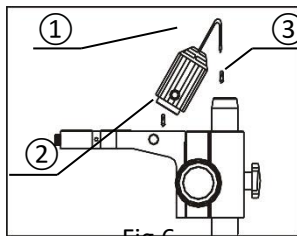

Fig. 6
- 1) Insert the illumination device (1) in the bracket with the protrudent side toward the lock-screw (2) and tighten the lock-screw. (Fig. 6)
- 2) Put the plug into the socket of the pillar stand (3).